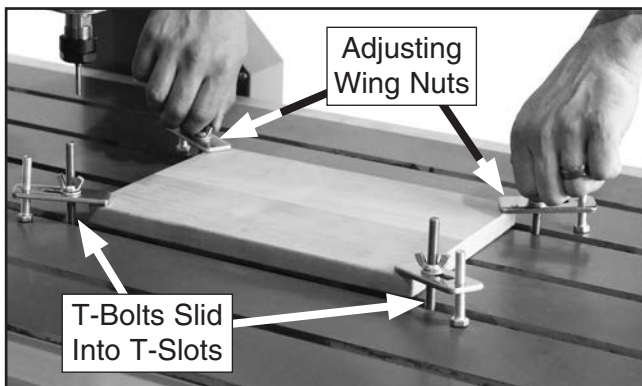

Figure 21. Clamping workpiece to table.
4. Slide T-bolts into T-slots, then adjust wing nuts and hex bolts so clamp plates are higher than workpiece (see **Figure 21**).